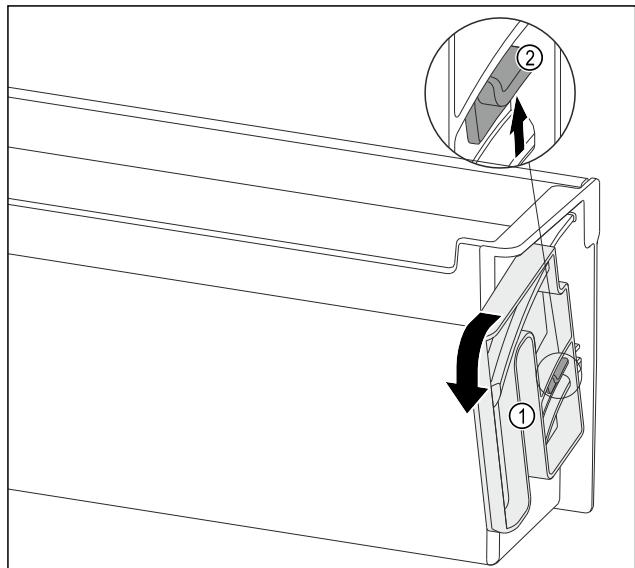

Fig. 123
- Turn the turning unit Fig. 123 (1) in the specified direction to the end stop.
- Press the tab Fig. 123 (2) up and remove the turning unit Fig. 123 (1).